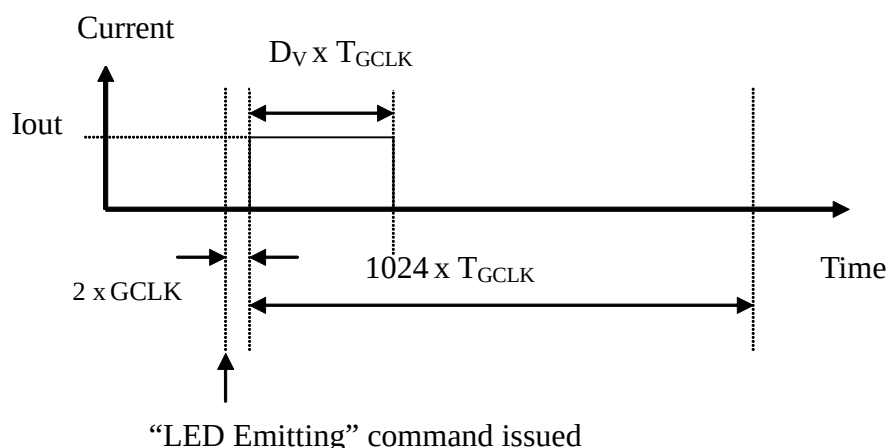

Figure 2. PWM Current Output
- B. There are 2 GCLK latencies between the latched *LED Emitting/Disable* command and PWM start/stop. This is shown in Figure 2.
ST2226B adjusts the LED luminance using PWM (pulse width modulation) technique. The luminance data (D_V) has a resolution of 10 bits (1024 steps) and can be set independently for each LED. The relationship between I_{out} , luminance data, and emitting time is shown in Figure 2.